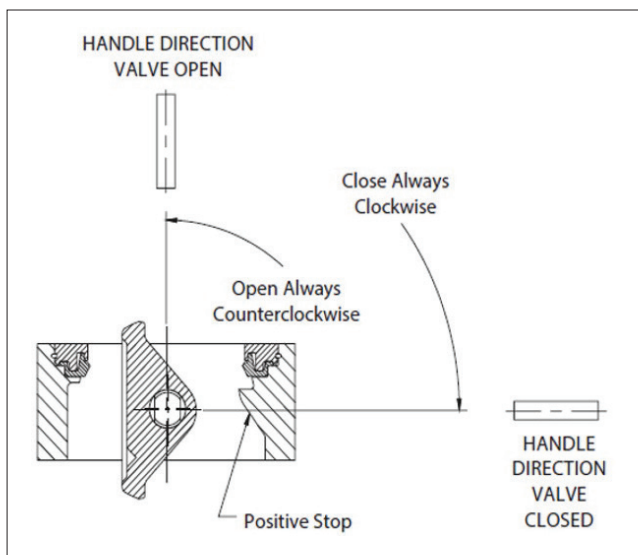

Fig. 2 Positive Stop Feature
To prevent seat damage from over-travel of the disc beyond the closed position (usually during field mounting of a handle or actuator), a "positive stop" feature has been designed into the valve. The location of this feature is shown in (Figure 2).
3. Before installing a closed valve in the pipeline, be sure that the handle or actuator is attached so that a counter-clockwise rotation, viewed from above, opens the valve (See Figure 2). Fully close the valve again before installing in the pipeline.